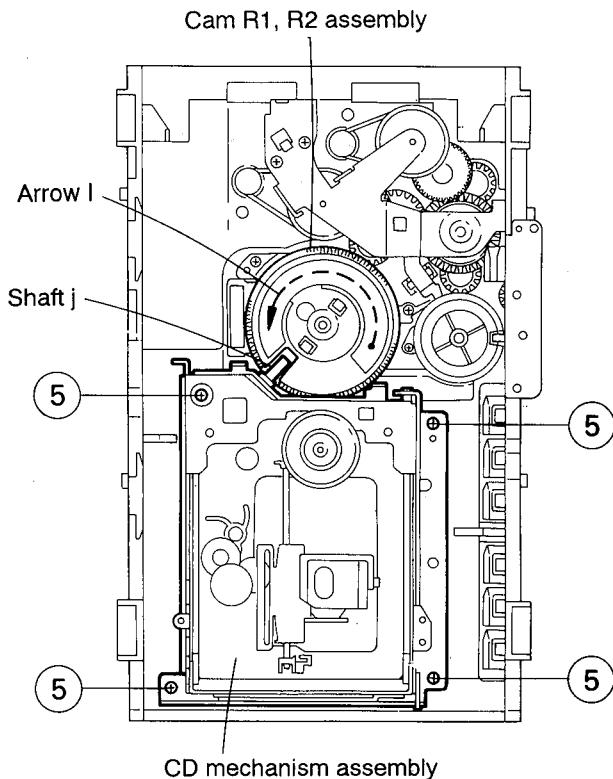

Fig. 2-19
■ Removing the CD mechanism assembly (See Fig. 2-19).
1. While turning the cams R1 and R2 assembly in the arrow direction (I), align the shaft (J) of the CD mechanism assembly to the position shown in Fig. 2-19.
2. Remove the four screws ⑤ retaining the CD mechanism assembly (See Fig. 2-19).